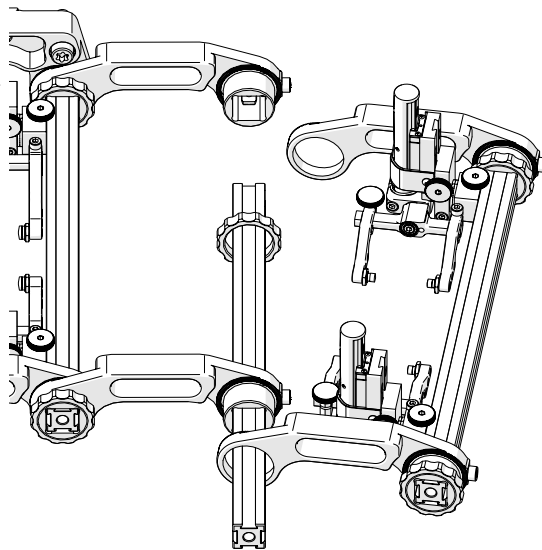

Fig. 145 - Angle probe holder around frame bar
7. Angle the probe holder frame around the frame bar (*Fig. 145*).